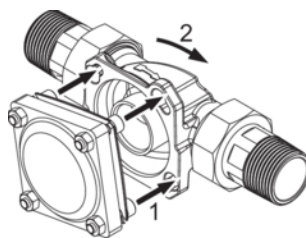
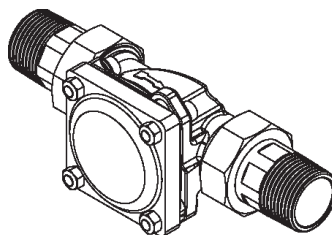

Fig. 4: Attach and engage appliance
Fig. 5: Connection of appliance engaged
1. Insert the heads of the four flange screws through the bayonet holes on the rotary flange fitting (see Figure 4).
2. Turn the appliance in clockwise direction up to the stop (see Figure 4 und Figure 5).